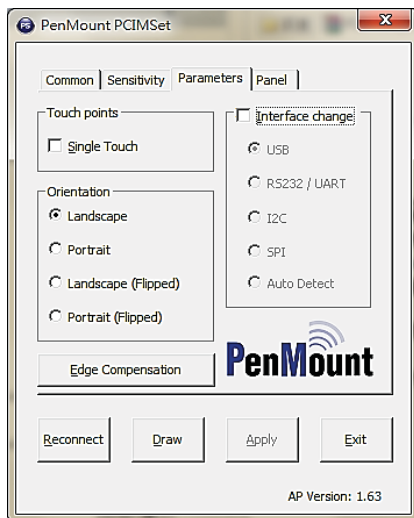

Fig.38
- Parameters: The user can change parameter settings in this tab, including single or dual-touch, touch panel orientation, interface setting, and edge compensation. (Fig.38)